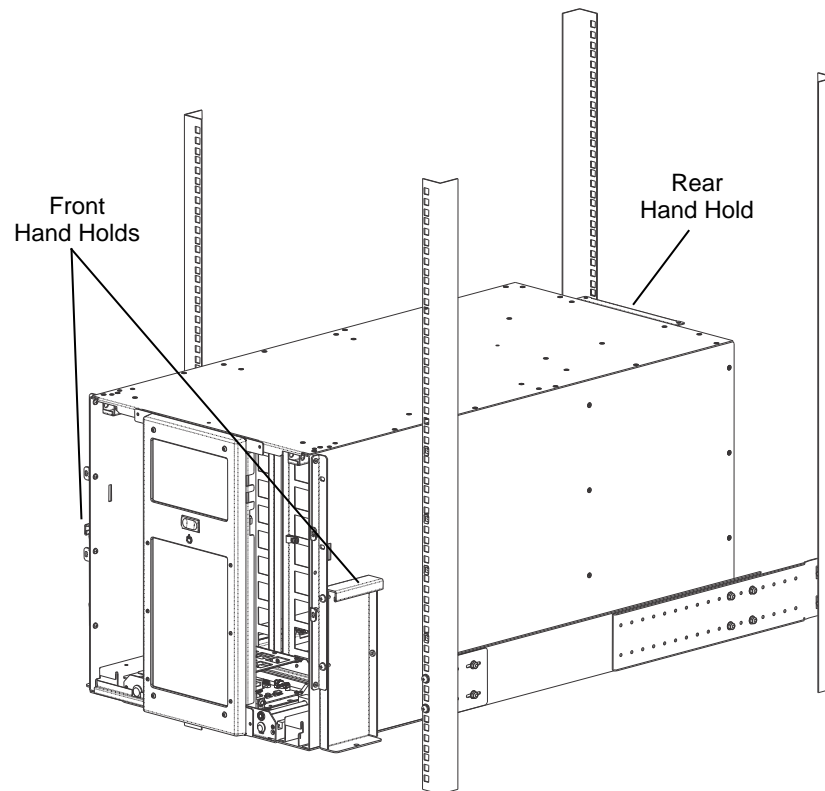

Figure 7-17 Library ready to be removed from the Rack
7. With the front hand holds installed, have two or more people slide the library out of the rack and lift the library by grabbing the front and rear hand holds as seen in Figure 7-17.